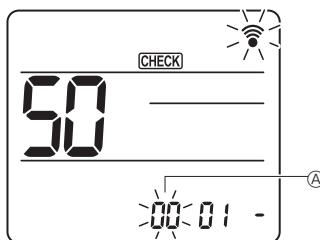

Fig. 6-17
② Setting the unit number
Press the **[▼]** button to set unit number ④. (Fig. 6-17)